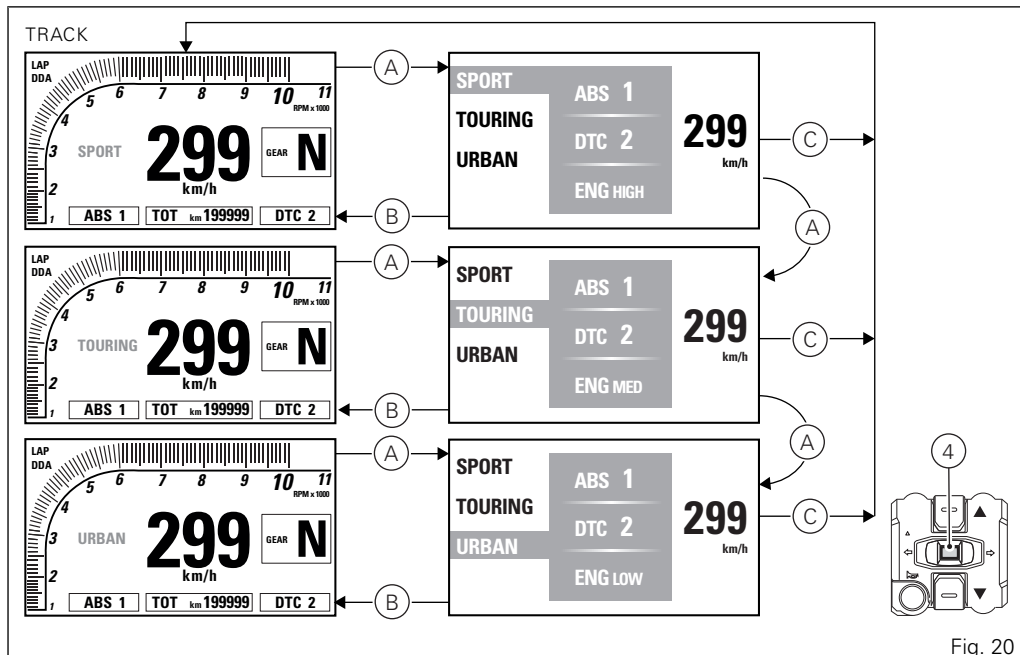

Fig. 20
Displayed information includes the values stored for each single Riding Mode. The stored settings may be the factory ones (Ducati default settings) or the ones customised by the owner. Any time CONFIRM MENU button (4) is pressed, the selected riding mode is highlighted together with the associated parameters (A, Fig. 20).
Once the desired riding mode is highlighted, confirm the selection by holding down the CONFIRM MENU button (4) for 2 seconds: the new riding mode selection is stored and the standard screen (B, Fig. 20) is displayed.
Once the desired riding mode is highlighted, if the CONFIRM MENU button (4) is not pressed within 10 seconds, the new riding mode selection is not stored and the standard screen (C, Fig. 20) is displayed.